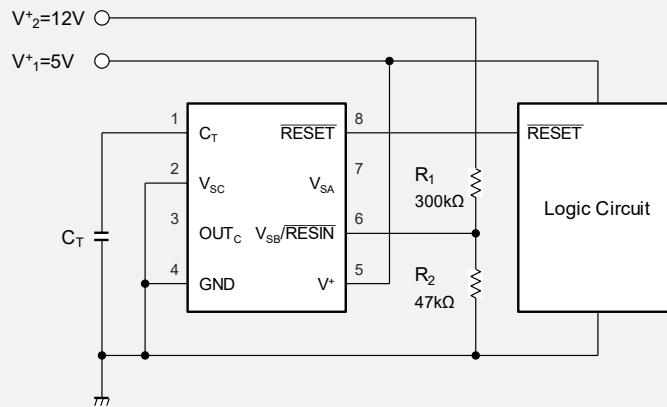

Fig. 5 5V, 12V power supply monitor ( dual power supply monitor : V+1=5V, V+2=12V)
- V+2 detection voltage (falling, rising) is set by R1 and R2 according to following formula. In case of resistor value in Fig.5, the detection voltage (falling) is about 9.0 V and the detection voltage (rising) is about 9.2 V.